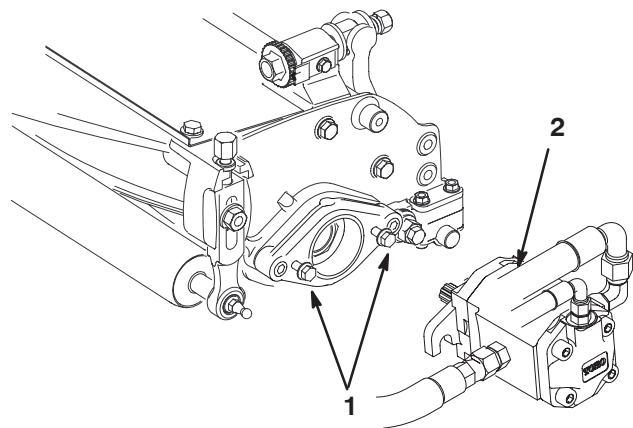

Figure 20
- Assemble the mounting screws for the reel drive motor to each cutting unit. Leave approximately 1/2 in. (13 mm) of the threads exposed on each mounting screw (Fig. 20).
11. Coat the spline shaft of the motor with clean grease and install the motor by rotating the motor clockwise so the motor flanges clear the studs. Rotate the motor counterclockwise until the flanges are encircling the studs and tighten the mounting capscrews (Fig. 20).